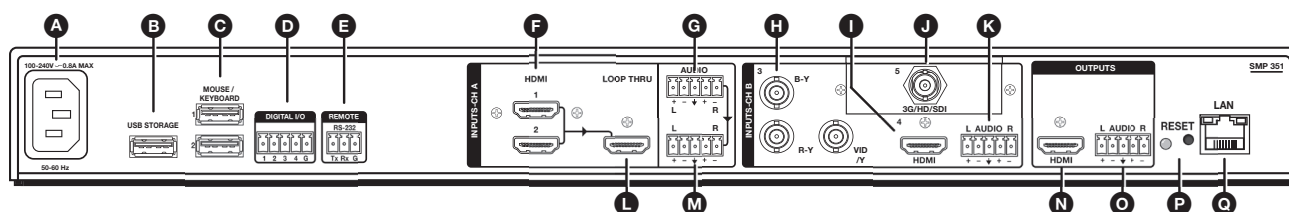
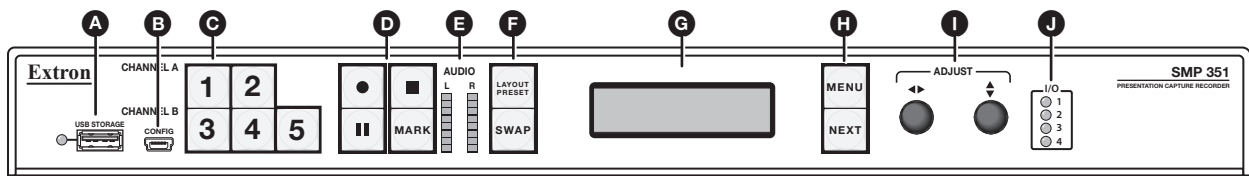

Figure 3. SMP 351 Rear Panel (SMP 351 3G-SDI shown)
Figure 8. SMP 351 Front Panel
- M Audio loop output** – Connect a balanced or unbalanced stereo line level audio device to this 5-pole, 3.5 mm captive screw connector (see figure 3, **M** on page 12). Wire the connector as shown in figure 5. Audio is always from audio input **G**.
The SMP 351 can be configured and controlled from the Remote RS-232 port (see figure 3, E on page 12) or the front panel USB mini-B Config port (see figure 8, B on page 18) using SIS commands and DataViewer via Telnet port 23. A standard Web browser can be used for control and configuration from the LAN port. Because the LAN port must be connected for streaming output, Extron recommends using it for configuration, remote control, and firmware upgrades.
- C USB keyboard and mouse** – Connect a keyboard and mouse to the two USB type A ports. With a keyboard and mouse connected, the user can toggle <CTL+ALT+S> the HDMI output (see figure 8, N) between the standard preview output and the internal browser view.
- E Remote** — To control the SMP 351 using SIS commands over RS-232, connect the host RS-232 cable to the rear panel (see figure 3, E on page 12) with a 3-pole captive screw connector for bi-directional (± 5 V) serial host control. The default protocol for this port is as follows:
The Reset button on the rear panel of the SMP 351 (see figure 3 on page 12) returns the SMP 351 to various modes of operation. To select different reset modes, use a pointed stylus or small screwdriver to press and hold the **Reset** button while the SMP 351 is powered or press and hold the **Reset** button while applying power to the SMP 351.